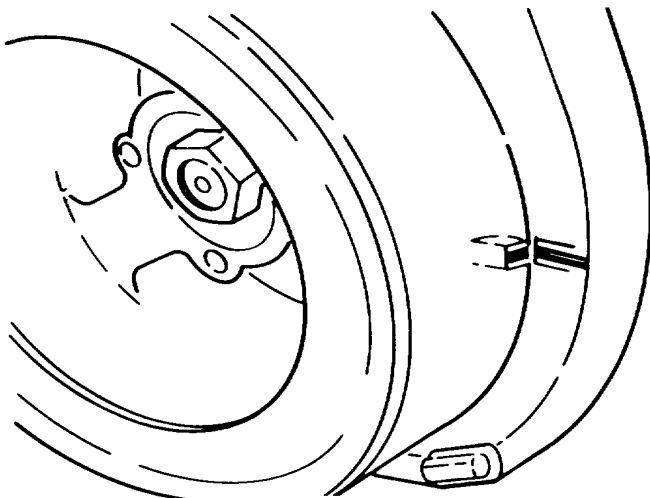
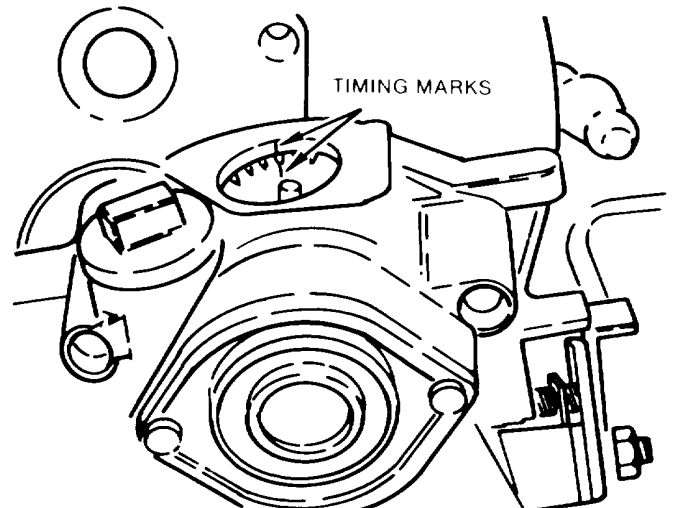
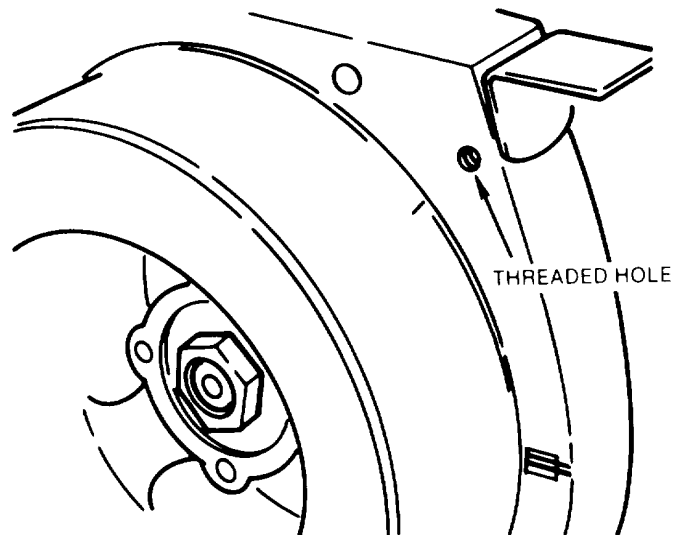

Figure A-47. Gear Cover
Figure A-48. Timing Marks
Figure A-49. Threaded Hole
j. Gear Cover. To install the gear cover, first bring the crankshaft to TDC1 (top dead center). This is done by aligning the flywheel timing mark with the TDC mark stamped on the crankcase at the 12 o'clock position. (Figure A-47.)
- (1) Next, line up the timing mark on the cam gear with the mark on the gear cover. This mark is visible on the inside ridge of the compression release mounting flange.
- (2) Install the gear cover (remember to replace the gaskets) onto the crankcase being careful not to move the cam gear. After the cover is installed, check the timing by aligning the cam gear with the timing mark on the gear cover and checking the timing mark on the flywheel. If the crankcase and flywheel timing marks are within 1/4" of lining up, the timing is correct. (Figure A-48).
- (3) Occasionally, however, the governor will tighten onto the crankshaft in a position that makes it difficult to install the gear cover. If this happens, use the following procedure to install the cover.
- a Turn the flywheel until its timing mark aligns with the threaded hole in the crankcase at approximately the 1 o'clock position. (Figure A-49.)